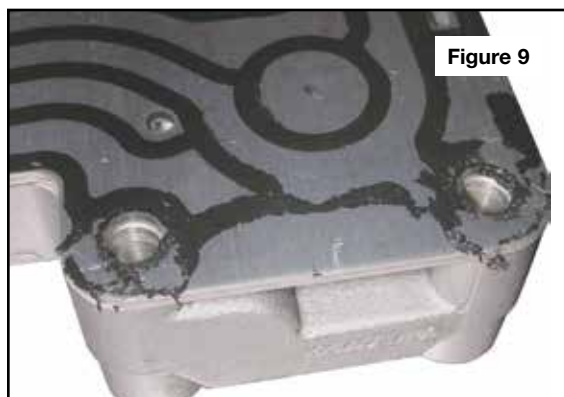

Figure 9
**NOTES:** The separator plate has a bonded gasket which may delaminate during disassembly (Figure 9). If any damage or delamination to the gasket is present, a new Sonnax separator plate should be used.